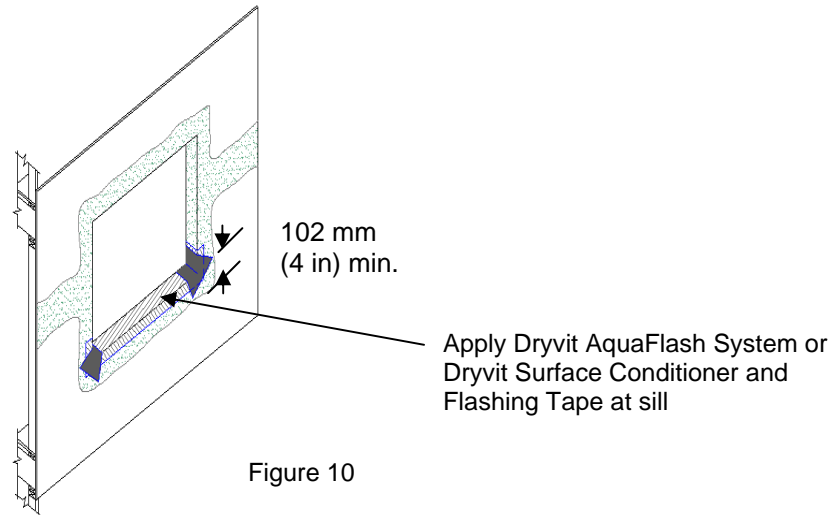

Figure 10
- 3) Apply Dryvit AquaFlash System or Flashing Tape at sill in accordance with Sections IV.A.3 and IV.C respectively. **Note: AquaFlash System or Flashing Tape must extend up the jambs a minimum of 102 mm (4 in) – Figure 10.**